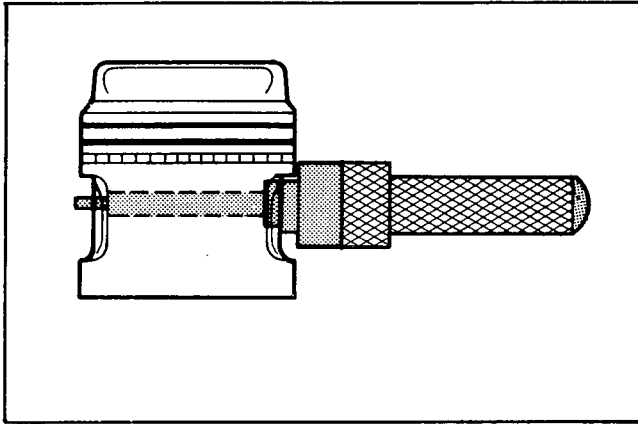

Figure 6. Retaining Ring Installation
2. See Figure 6. Place the tool handle into the sleeve and then into the piston pin, as shown.